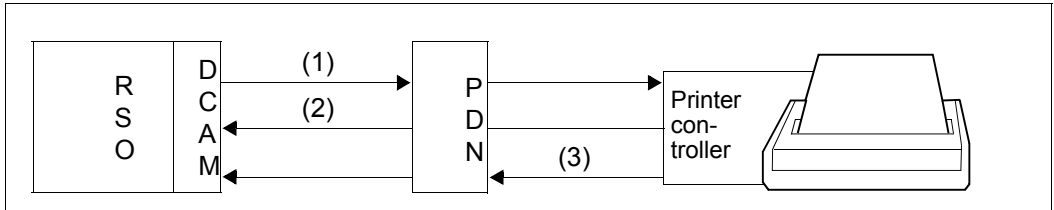

Figure 15: PDN and printer controller dialog with RSO
It is not, however, possible to be “transparent” when sending the data (path (1) in figure 15) since each message that is sent to the printer must begin with a header matching the access mode of the printer.